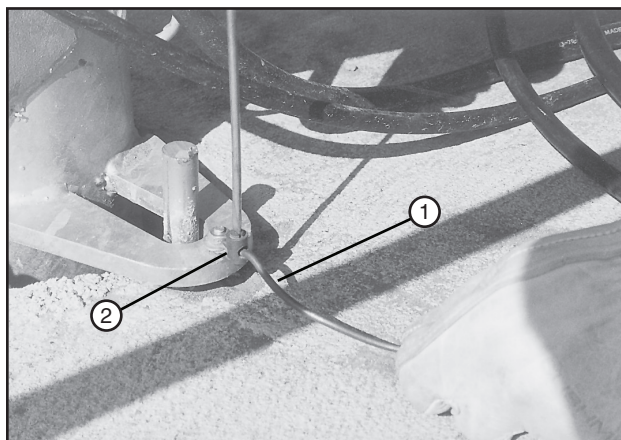

Figure 54-2 1. Ground Wire
24. Attach the ground wire to the ground lug on the riser. See Figure 54-2.